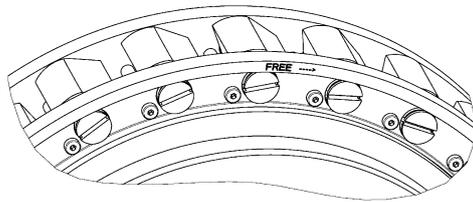

Fig. 14: Sprags in "service"
- Place the cage (8) on the inner race (2) and fasten axially with locking rings (4)
- Secure the sprags of the one-way clutch in lift-off position with an assembly aid (O-ring / cable connector) (see figures 14 and 15)